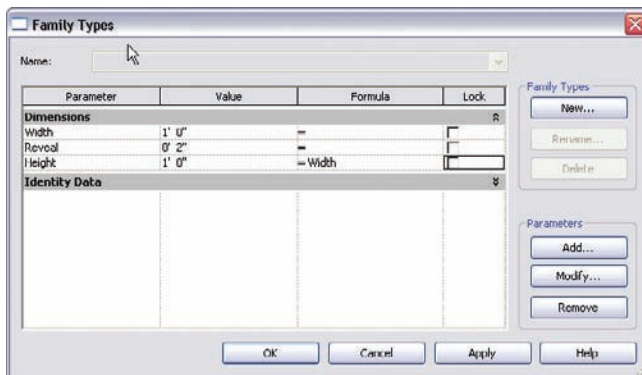

FIGURE 17.9 The Height parameter is now constrained to the Width parameter.
3. Type **Width**, and press the Tab key on your keyboard (see Figure 17.9).